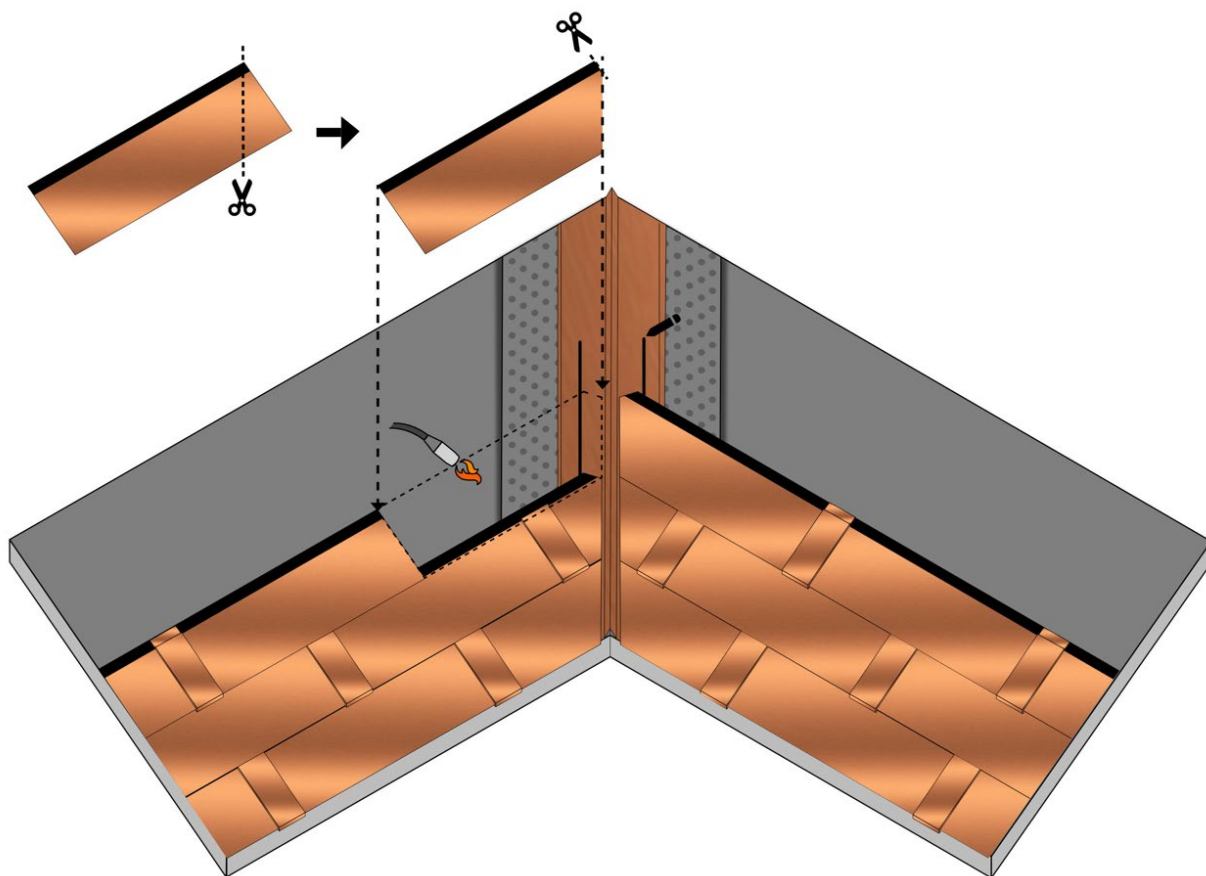

Fig. 25 – Shingles installation by torch along the valley
- Next, install the shingles on the first pitch, up to the valley line, cutting them 3 cm and parallel to the valley line. Secure the shingles with the torch, and with Bitustick, applied in two parallel rows, above the metal valley flashing – Fig. 25.
- Repeat the same procedure for the second pitch. In the end, a channel should be created between the shingles, along the metal valley, where the water will flow preferentially, Fig. 25.
- Cross-cut the top edge of the shingle to the valley, so as to convey the descending water along the axis of the valley. Fig. 25